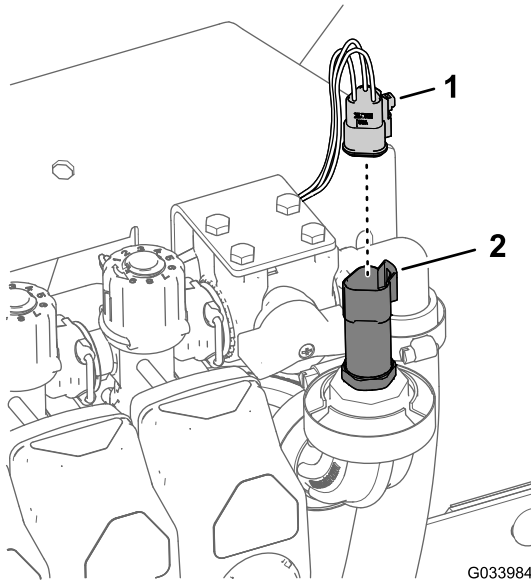

Figure 37
1. Disconnect the 3-socket connector for the pressure transducer (Figure 37).